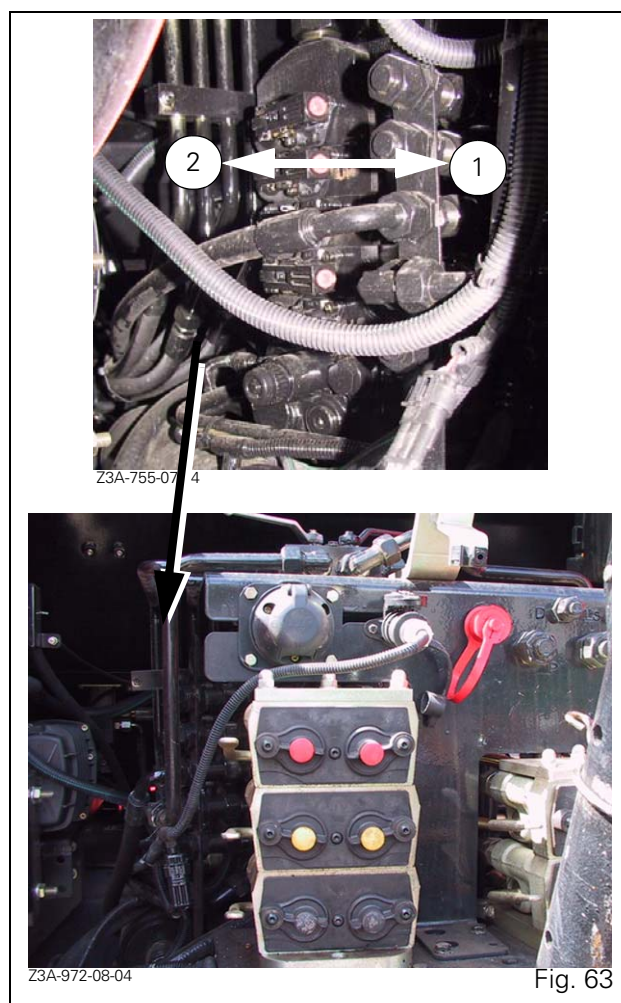

Fig. 63
**Operation:** Activate one of the levers located on the hydraulic valves by pressing as shown (1) for lowering or by pulling as shown (2) for raising (Fig. 63).